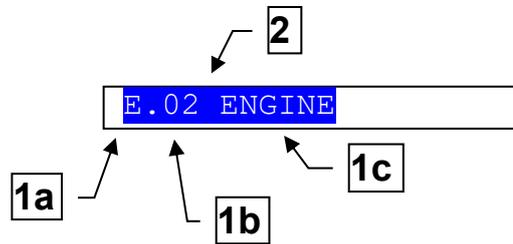

Fig. 5 – Display of the top status bar
8.5.5 Top status bar (ref. to fig. 5)